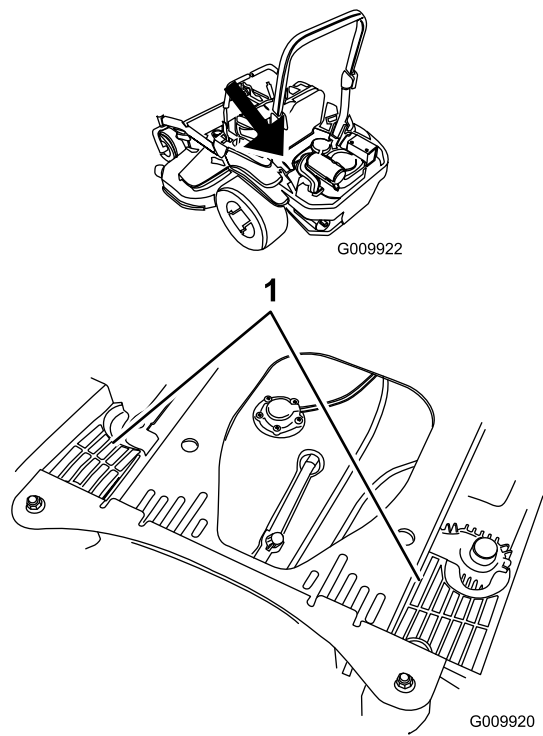

Figure 78
4. Clean the debris and grass from the hydraulic unit shrouds (Figure 78).